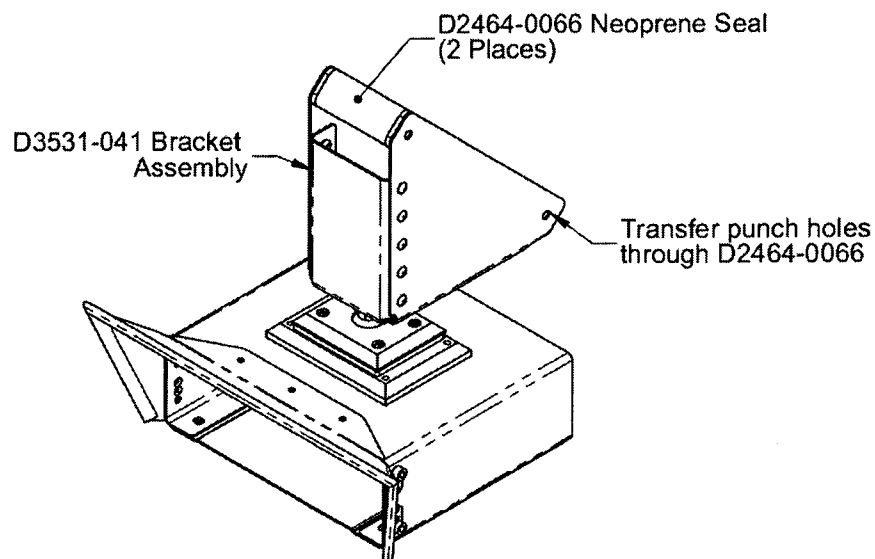

Figure 3.3.2 – D2464-0066 Neoprene Seal Installation
- 3.3.3 Align the qty(2) D2464-0066 Neoprene Seals flush with the edges of the D3531-041 Bracket Assembly as shown in **Figure 3.3.2**. Transfer punch the qty(4) #11 ($\varnothing 0.191$ ") holes drilled in the D3531-041 Bracket Assembly through the D2464-0066 Neoprene Seal. Remove the adhesive backing from the neoprene part and apply the neoprene to the D3531-041 Bracket Assembly as shown in **Figure 3.3.2**.